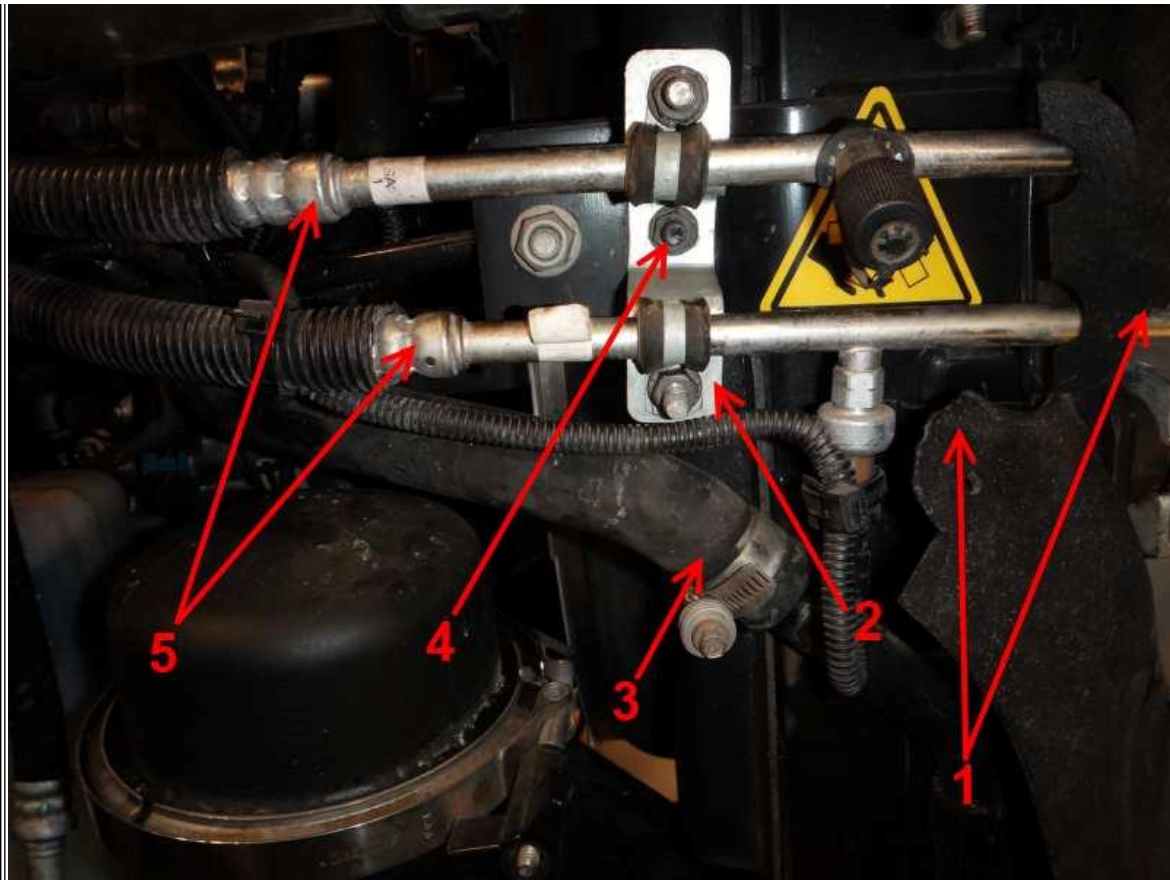

Figure 7: A/C Line Bracket
15. Remove the nut securing the A/C condenser line bracket to the radiator (**Figure 7**, Item 4).
16. Loosen the hose clamp and remove the Low Temp Radiator (LTR) return hose from the return tube (**Figure 7**, Items 3).
17. Cut the recirculation seal to allow the condenser to swing around the engine (**Figure 7**, Item 1).